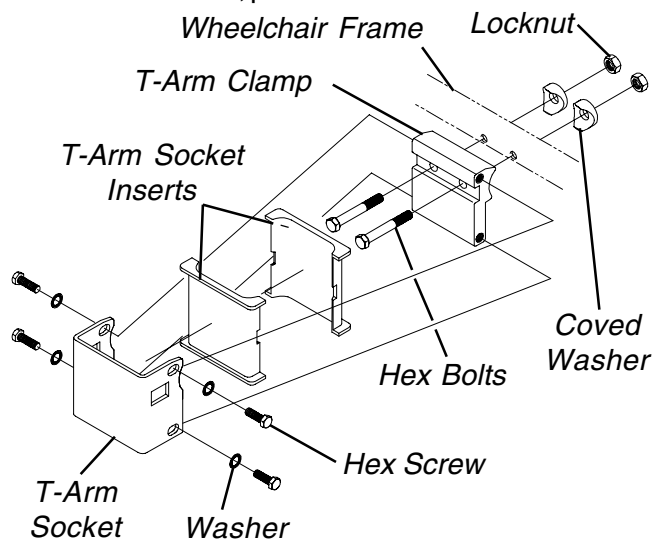

FIGURE 1 - INSTALLING T-ARM SOCKETS
INSTALLING T-ARM SOCKETS (FIGURE 1)
2. Position the T-arm clamp on the wheelchair frame as shown in FIGURE 1.
4. Position the T-arm socket inserts in the T-arm socket as shown in FIGURE 1.
6. While holding the T-arm socket and the T-arm clamp together, install the four (4) hex screws and washers into mounting holes and tighten loosely.